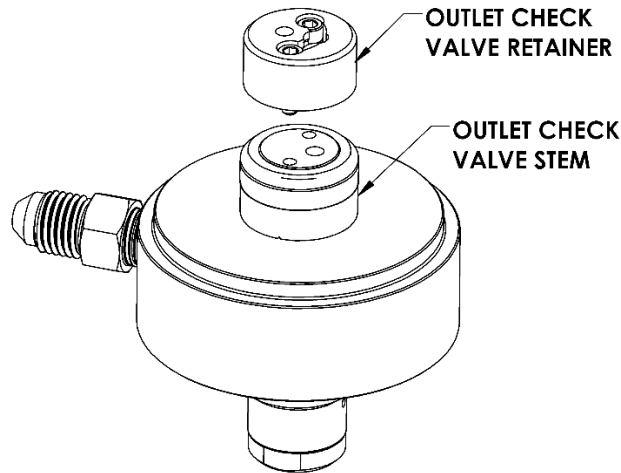

Figure 25 Placing the Outlet Check Valve Retainer on the Check Valve Body Stem
5. **Set** the assembled outlet check valve retainer on the outlet end of the check valve body stem with the outlet check valve seat butted up against the end of the stem (see **Figure 25** on next page).